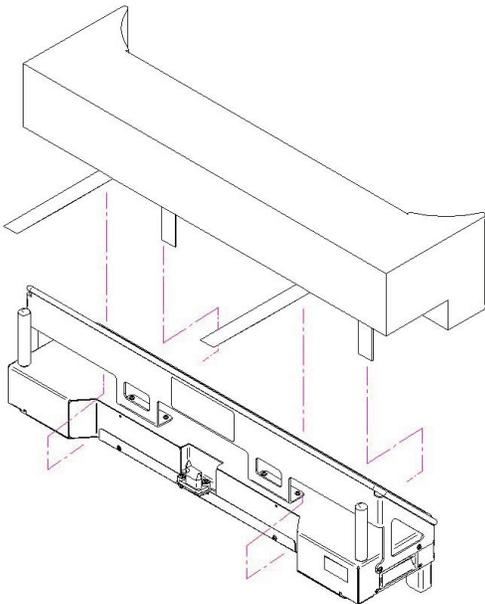

Figure 69: Strapping the mattress to the optional bed extender
1. Strap the appropriate mattress extender cushion onto the optional bed extender (Figure 69 on page 74).